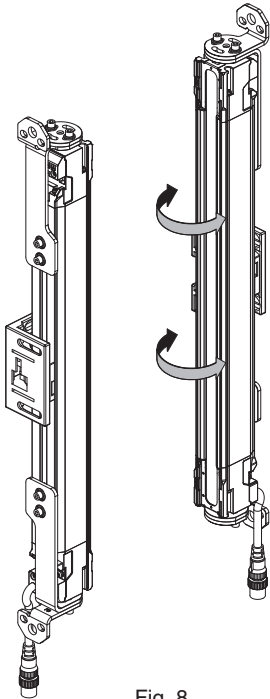

Fig. 8
7. Power the emitter and receiver on to perform beam alignment. Move the emitter and receiver from side to side (Fig. 8) to check the state of the beams. For more information on the beam alignment procedure, refer to 5-3-4-5. *Mounting IP69K Model.*